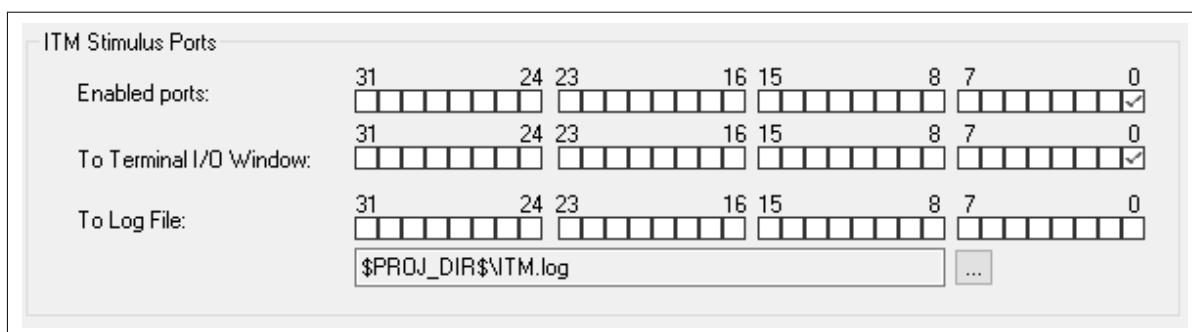

Figure 14 IAR SWO configuration for ITM
2. Go to **I-jet > SWO Configuration** and configure the ITM Stimulus Ports as shown in Figure 14